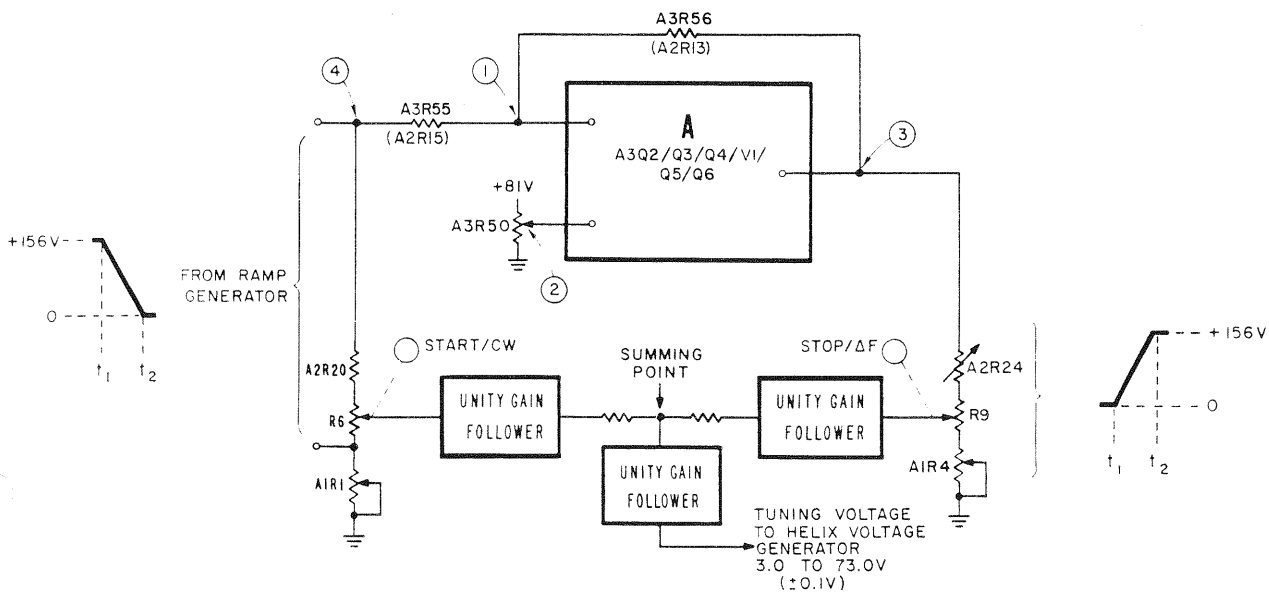

Figure 4-8. Reciprocal Amplifier Functional Schematic Diagram
4-36. The Reciprocal Amplifier consists of differential amplifier Q2 Q3 Q4, inverter amplifier V1, and emitter follower Q6 on etched circuit board A3. Unity gain is achieved by a degenerative feedback circuit around the entire amplifier as shown in Figure 4-8. The gain of A3V1 is 70 to 75 db, but the net gain of the circuit is equal to the ratio of feedback resistor A3R56 to input (series) resistor A3R55. For swept and single frequency output, equal resistors give unity gain. For external frequency modulation, unequal resistors A2R13 and A2R15 are substituted to obtain amplification.
4-37. The voltage at (2), Figure 4-8, is preset to +78V, half the amplitude of the linear ramp from the Ramp Generator. When operating as a unity gain inverter, the circuit acts to maintain the voltage at (1) equal to the voltage at (2). To achieve this, the circuit produces a positive-going ramp at (3). The instantaneous ramp voltages at (3) and (4) are averaged by resistors A3R55 and A3R56 to produce about +78V at (1). The negative- and positive-going ramps supplied to the Ramp Combining Circuit must have exactly the same dc voltage limits. To obtain this equality, the dc voltage limits of the positive ramp from the Reciprocal Amplifier are adjustable. A3R50 sets the low voltage limit, and A3R75 sets the high voltage limit.